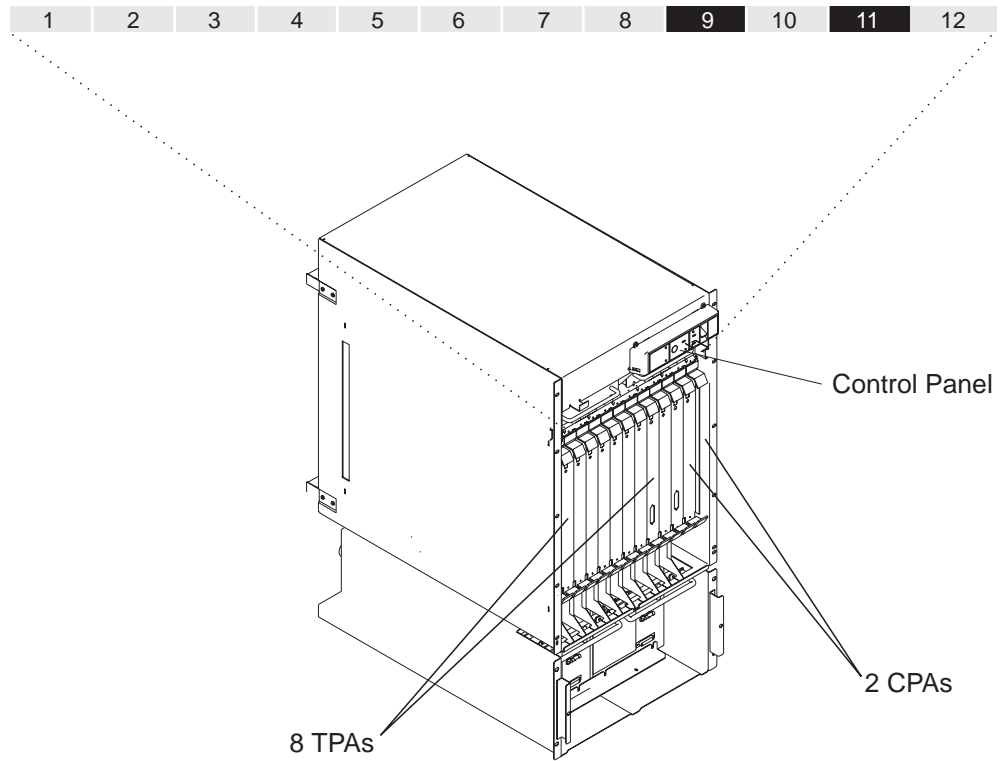
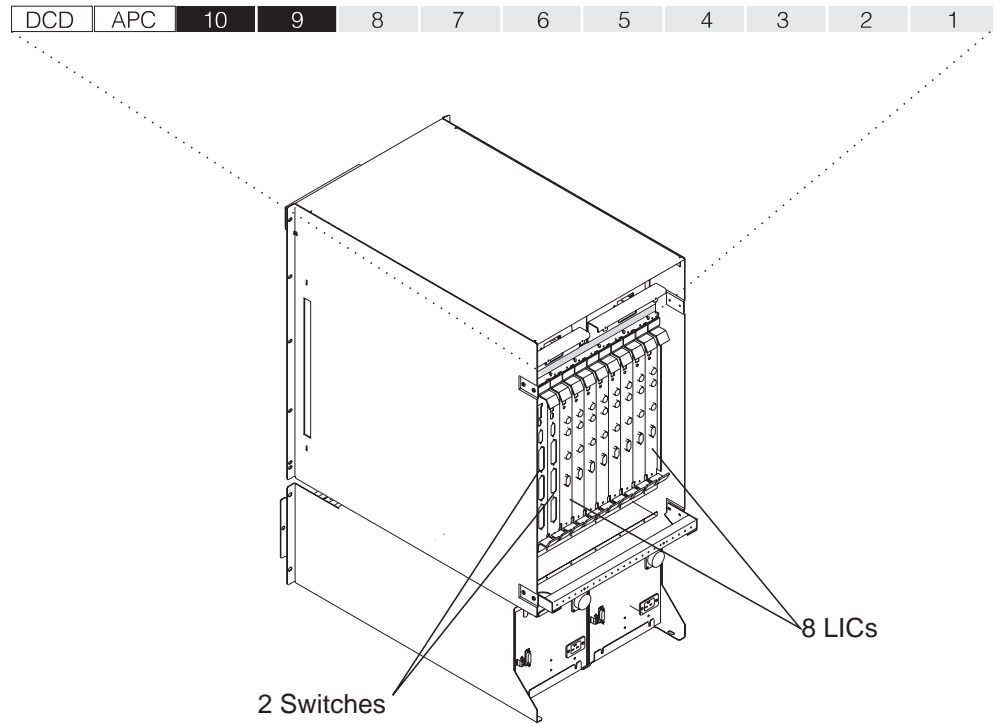

Figure A-10. 2220 Label (Front View Adapter Side)
Figure A-12. 2220 Labels (Rear View, LIC Side)
- **Rack identification (RR)** Letters A, B ,.. for rack. The rack identifier is installed at the top of each rack at installation time.
- **Front or rear side location** of the rack(S) Letter F or R.
- **Unit location (UU)** This is the vertical location, it uses the EIA Units of the rack. A vertical label divided in U unit is stucked on front and rear of the rack.
- **Horizontal location (HH)**
- For modules (1 to 12 see Figure A-10 on page A-12 and Figure A-12 on page A-13).